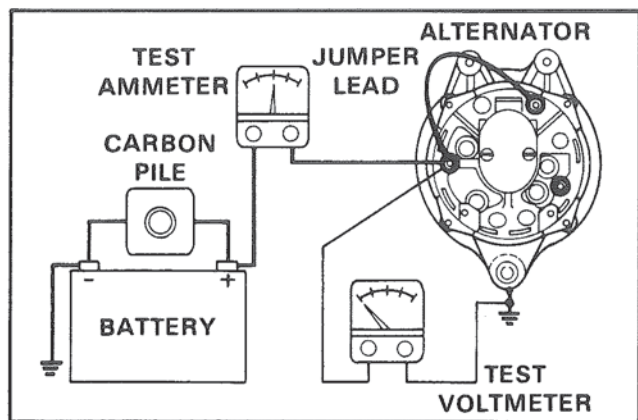

Figure 39. Connections for Bench Testing.
7. Install four (4) thru-bolts and tighten securely.
10. To check alternator output, run test. Figure 39.